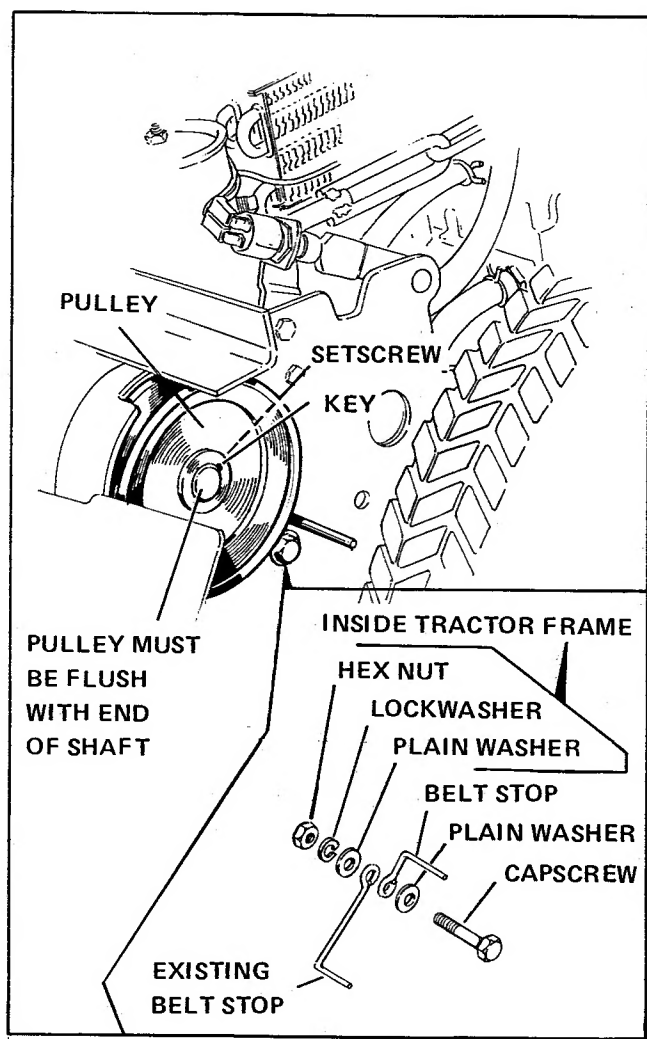

FIGURE 3.
replace old capscrew with new capscrew supplied in kit. Place flat washer, new belt stop, then existing belt stop on new capscrew. Place in frame hole, and place flat washer, lockwasher and nut on end of capscrew. (See Figure 3.) On tractors which do not have a lower belt stop for center mounted attachments, install new belt stop with flat washer, nut, and capscrew to hole in side plate.
6. With the key placed in the shaft, install pulley with the hub facing in toward the tractor. The outer edge of the pulley should be flush with the end of the shaft. Tighten the setscrew on the pulley hub securely after being sure the drive pulley is in line with the pulleys on the attachment. (See Figure 3.)